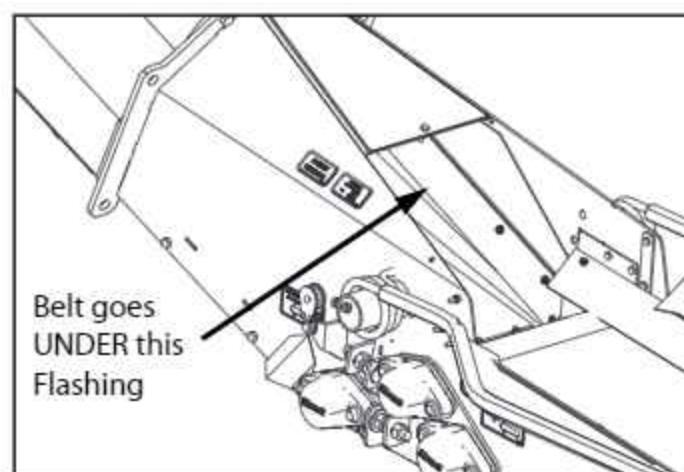

FIG. 3-76. Routing the Belt through the Intake
**NOTE:** On Oil Seed Conveyors, the belt must go **UNDER** the long flashings inside transition area of the Intake. See Fig. 3-76.